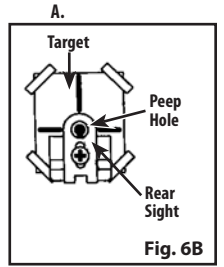

Fig. 6B
- When using the peep sight, the airgun is correctly aimed when the front sight blade is positioned exactly in the center of the peep of the rear sight (Fig. 6B).